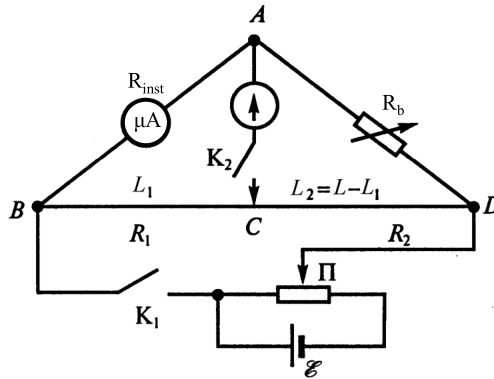

Figure 3:
The diagram of the experimental setup based on the Wheatstone bridge is shown in Figure 3.
Draw a circuit diagram in your notebook (Figure 3). Write down and derive the formulae for calculating of R_{instr} . Prepare the Table 1 for your records of experimental data.
- a. Assemble the experimental circuit (see Fig 3). The variable resistor is indicated by "B" and "D" points in Figure. Connect the lower part of the Wheatstone's bridge to the power supply through the double-key switch K_1 . Connect one of the terminals of K_1 to the "+" of the source, the second one of K_1 to the point B and the point D to the wiper of the variable resistor. Connect the upper part of the bridge to the "+" terminal of the test device. The second terminal of the test device should be connected to "point A". Connect the terminal "*" of the resistance box to "point A" and the terminal "9999.9" of the resistance box to "point D".